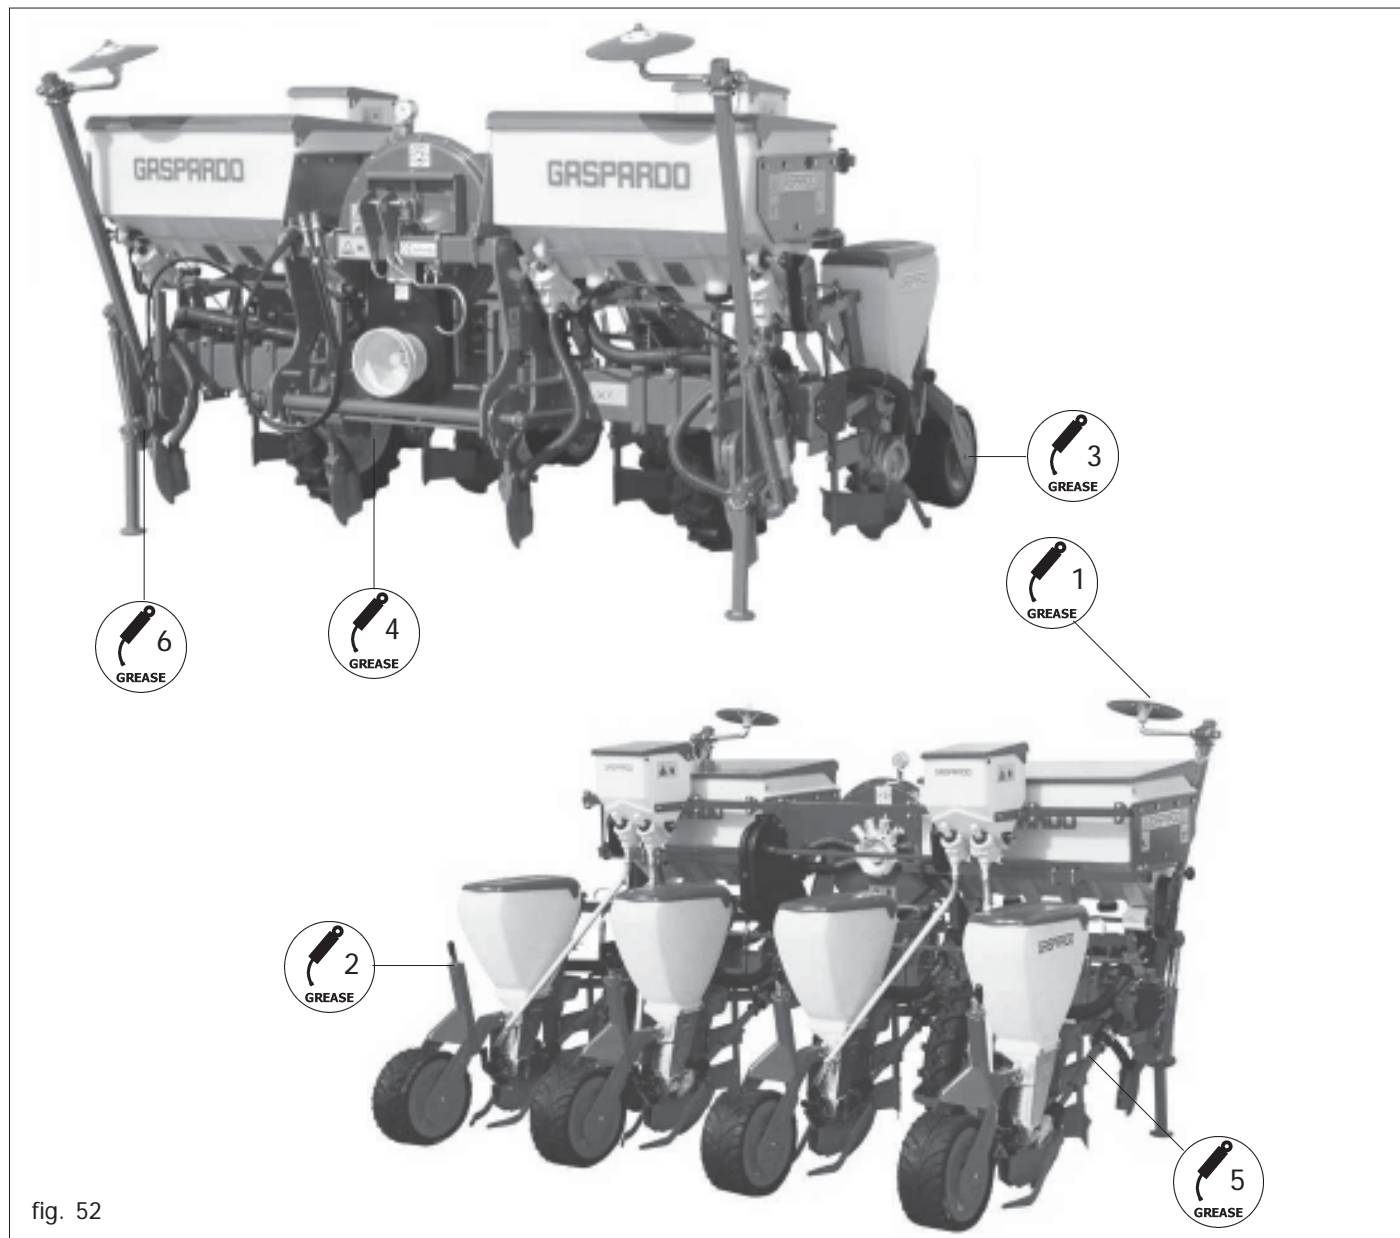

fig. 52
- Grease the row-marker disk pivot (1 fig. 52).
- If iron "V" wheels are fitted, grease the hubs (3 fig. 52).
- Grease the row-marker arm pivot (6 fig. 52)
- Oil the height adjust bolt (2 fig. 52).
- Grease the drive wheel oscillating bearings (4 fig. 52).
- Grease the bevel gear pair of the Cardan shaft (5 fig. 52).